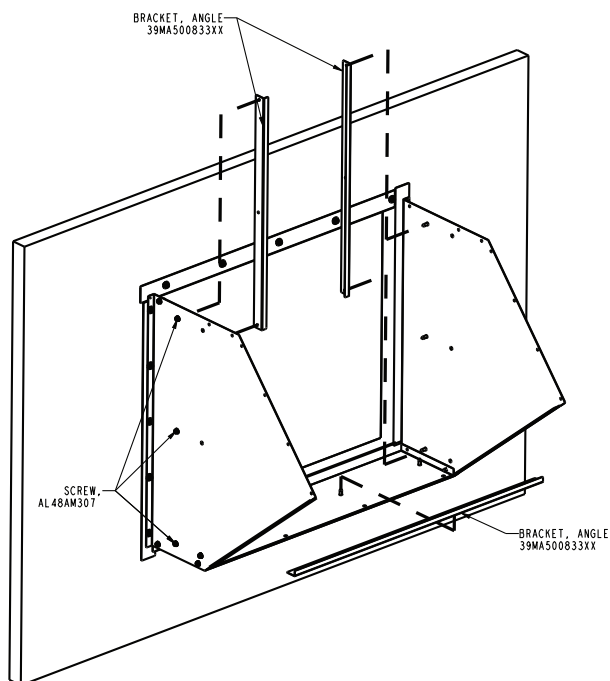

Fig. 81 — Attaching the Angle Brackets
10. Attach inner angle brackets to side and bottom panels using the 1/4 in.-14 x 5/8 in. long sheet metal screws (without neoprene washer.) See Fig. 81.